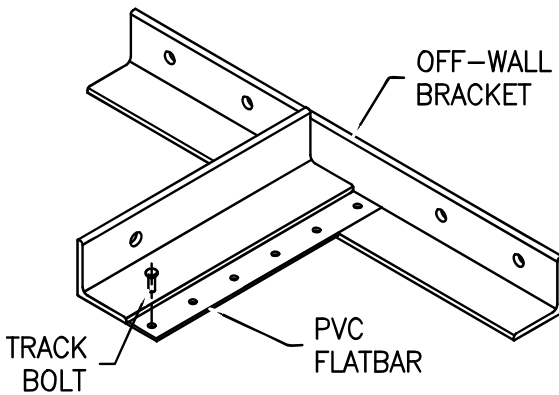

FIG. 2
- Insert track bolts into PVC flat bar of brackets (Fig. 2)